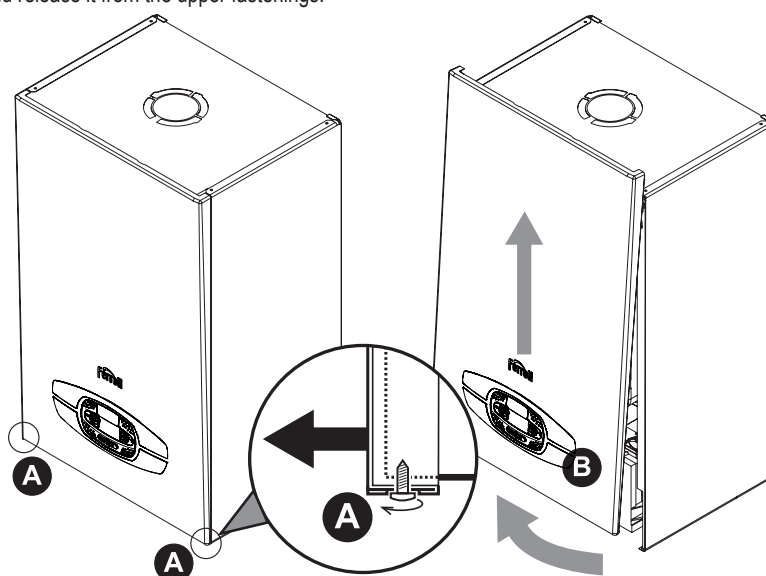

fig. 177 - Front panel opening
1. Partially undo the screws A (see fig. 177).